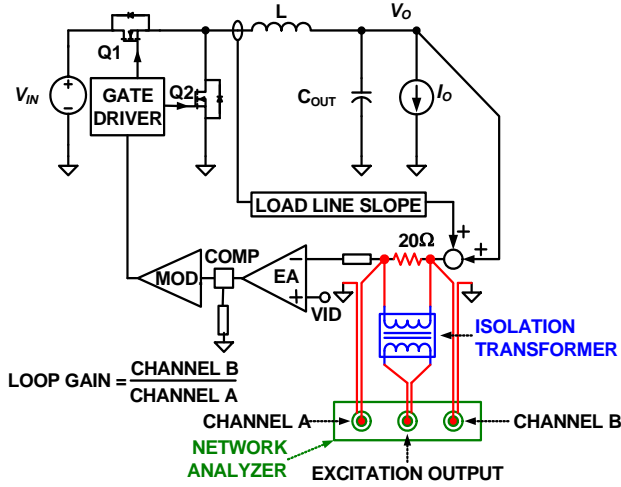
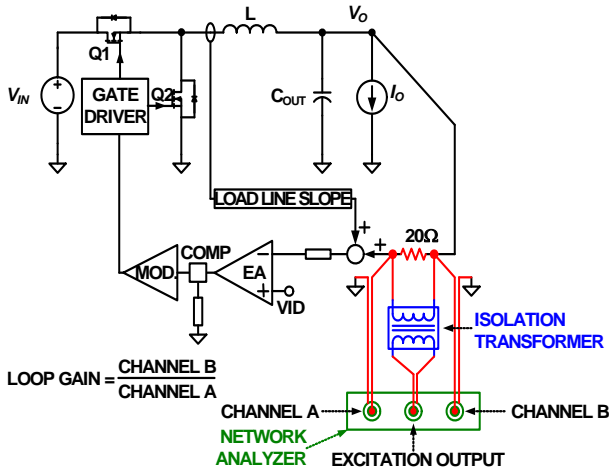

FIGURE 26. LOOP GAIN T1(s) MEASUREMENT SET-UP
FIGURE 27. LOOP GAIN T2(s) MEASUREMENT SET-UP
Figure 26 conceptually shows T1(s) measurement set-up and Figure 27 conceptually shows T2(s) measurement set-up. The VR senses the inductor current, multiplies it by a gain of the load line slope, then adds it on top of the sensed output voltage and feeds it to the compensator. T(1) is measured after the summing node, and T2(s) is measured in the voltage loop before the summing node.